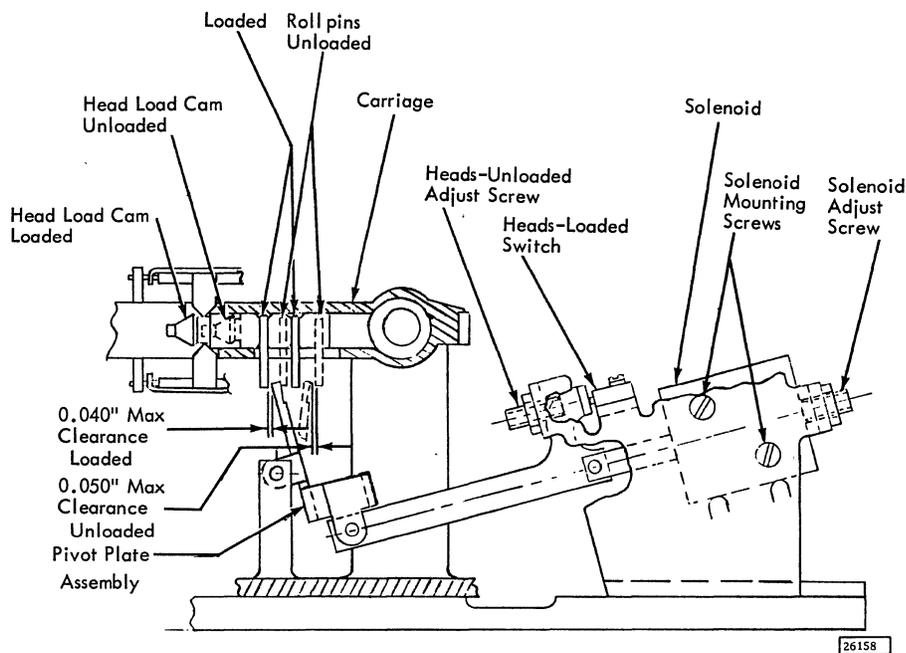

Figure 4-6. Head Load Assembly, Adjustment
#### 4.8.2 Head Load Assembly Adjustment (Figure 4-6)\*
2. Unsolder leads at heads loaded switch (Figure 4-6) and note terminal from which each lead is removed.